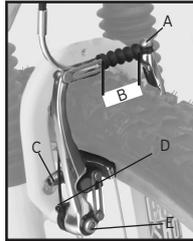
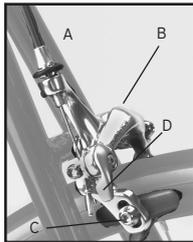
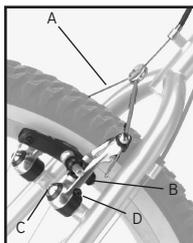

Figure 28- Direct pull brake
Figure 29- Caliper brake
Figure 30- Cantilever brake
*For most direct-pull (Figure 28), or cantilever (Figure 30) systems the barrel adjuster is on the lever. For most road caliper systems (Figure 29) the barrel adjuster is on the brake itself.*